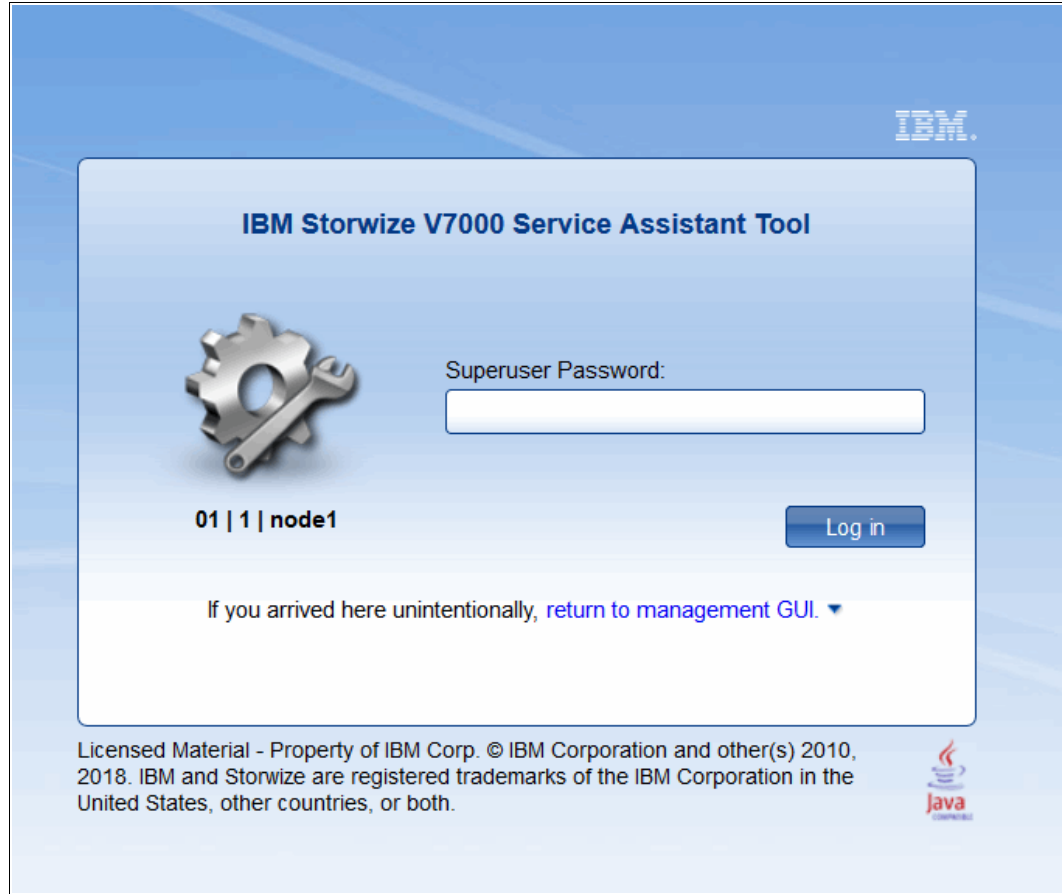

Figure 13-71 Service Assistant Tool Login GUI
1. If you are accessing SAT by using *cluster IP address/service*, the configuration node canister SAT GUI login window opens. Enter the Superuser Password, as shown in Figure 13-71.